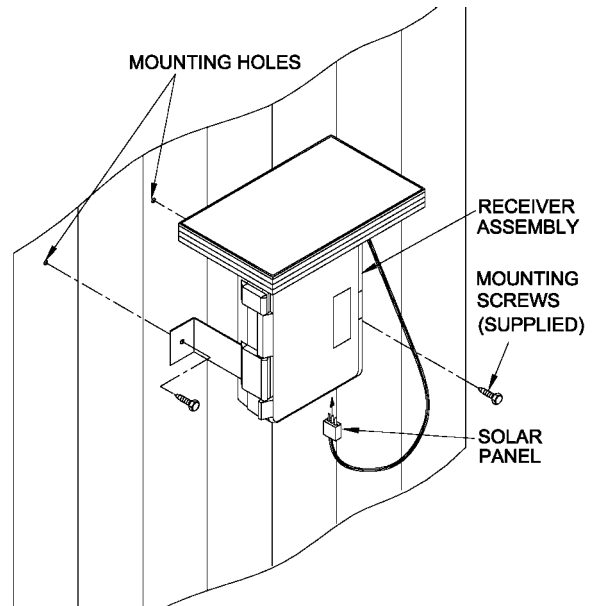

Figure 2-5. Installing Receiver
1. Refer to figure 2-5. Hold the receiver in the desired position and mark the locations of the two mounting holes using a pencil.